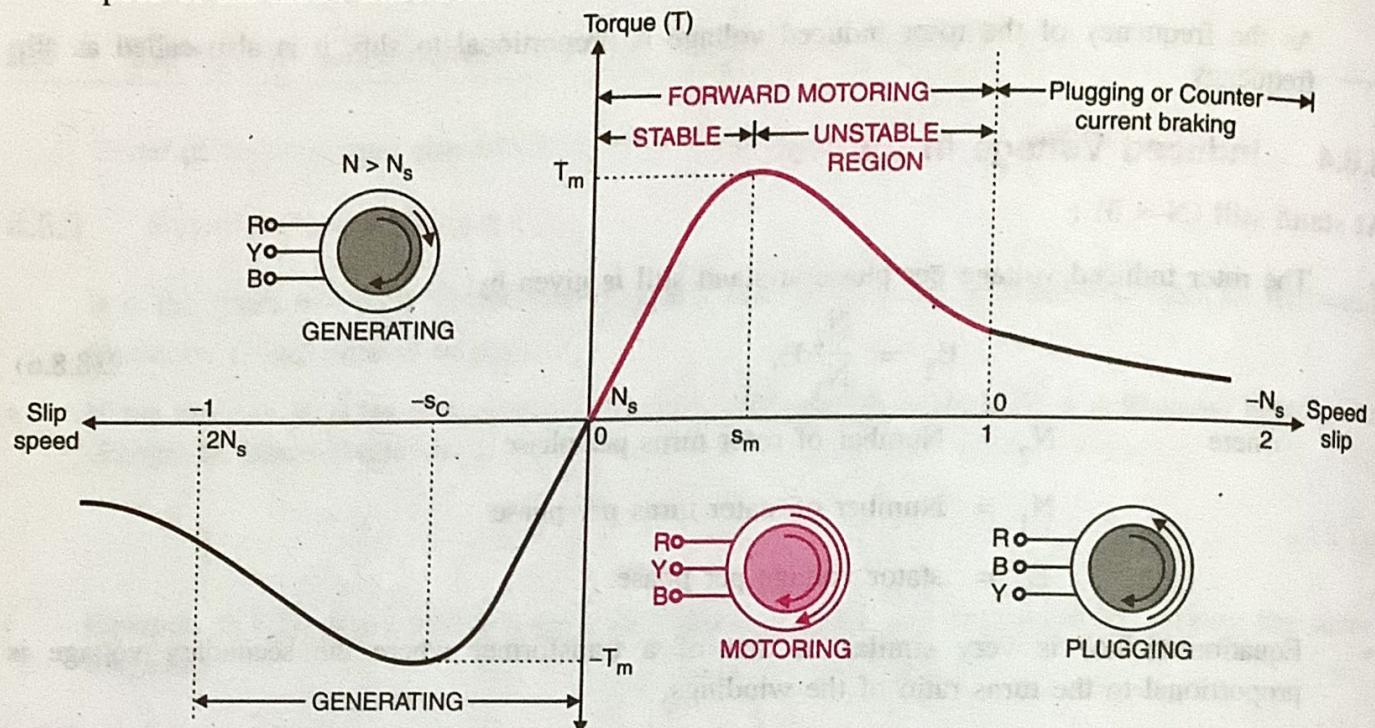

Fig. 8.9.1 : Torque-speed characteristics of induction motor
The torque-slip or torque-speed characteristics of an induction motor is as shown in Fig. 8.9.1. The characteristic can be divided into three sections :
- In the forward motoring region of the characteristics shown in Fig. 8.9.1, the motor rotates in the same direction as that of rotating magnetic field.
- In the forward motoring region ($0 \leq s \leq 1$) of the torque-speed characteristic of Fig. 8.9.1, the region of ($0 \leq s \leq s_m$) is said to be a stable region of operation and the operating point of the motor should be in this region of the characteristic.
- For the generating region, the slip needs to be negative and between 0 and -1 as shown in Fig. 8.9.1.
- As shown in Fig. 8.9.1, the motor operates in the plugging or counter current braking mode for values of $s > 1$.